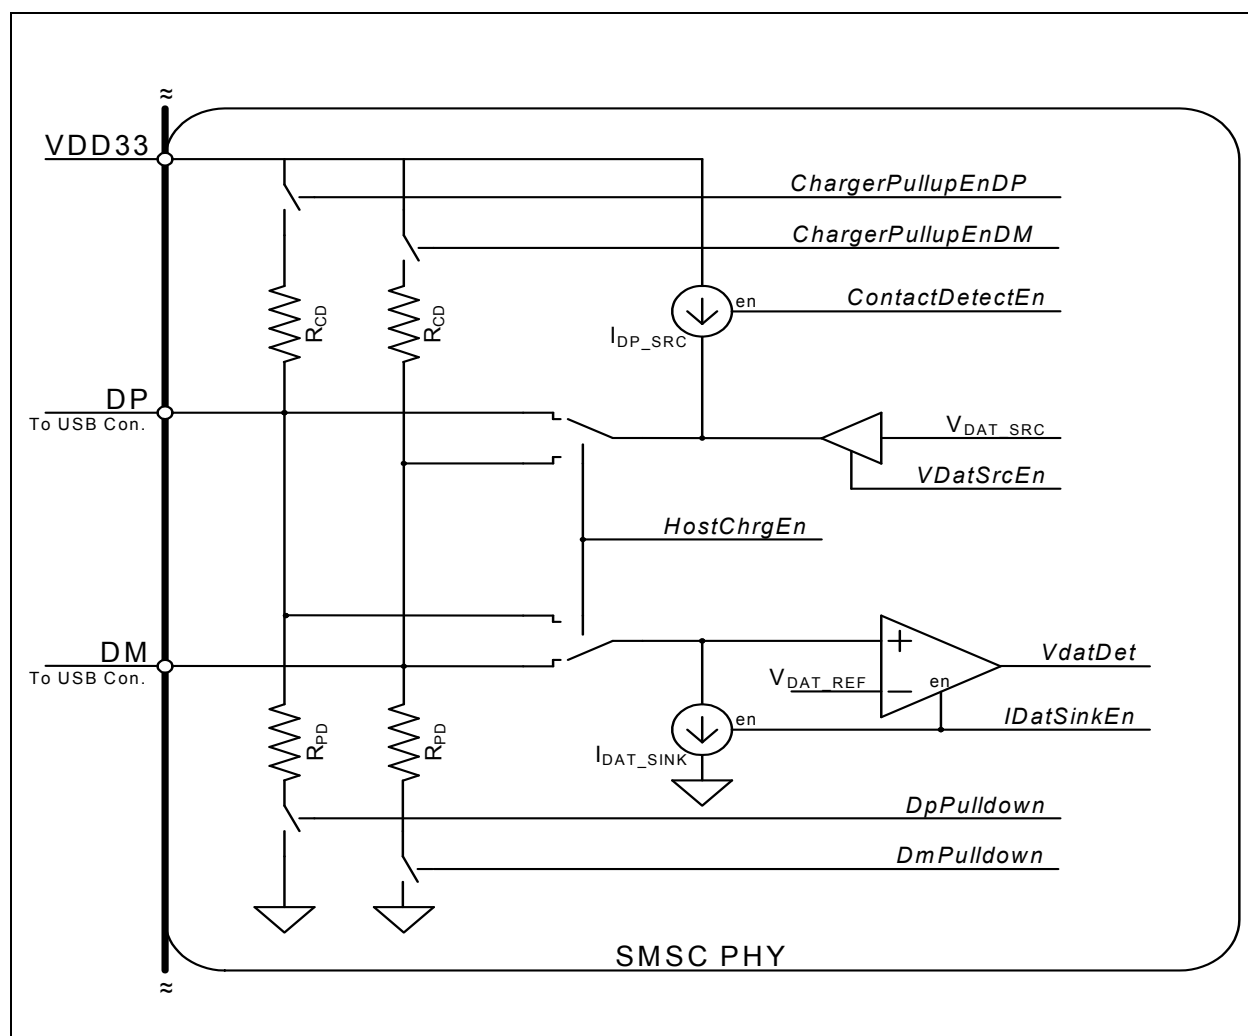

Figure 5.1 USB Charger Detection Block Diagram
**Note:** The *italic names* in the Figure 5.1 correspond to bits in the ULPI register set.
The charger detection circuitry is shown in Figure 5.1.